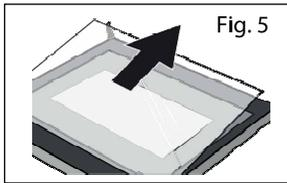
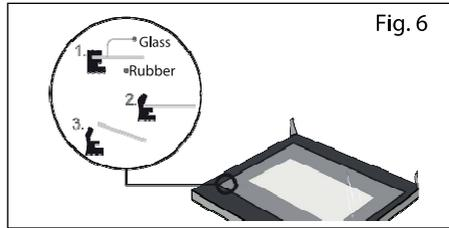

Fig. 5
Fig. 6
3. Push the double glazing in the direction of the arrow (Figure 5) and pull it completely out in order to proceed with cleaning. At this point you can also remove the middle glazing in the oven door (follow the procedure of Figure 6) and proceed with cleaning.